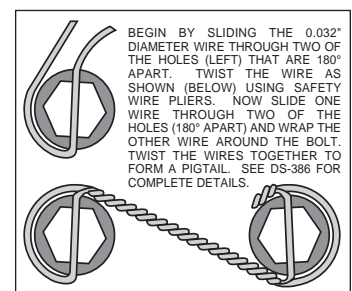

Figure 2. Safety Wire Diagram
• Orient the caliper mount bracket (1) as shown in Figure 1, and install using bolts (2), and washers (3). Ensure that the flanged heads of the clinch nuts in the bracket are facing outboard. Temporarily tighten the mounting bolts. **NOTE: The bracket must fit squarely against the mount bosses on the birdcage.** Inspect for interference from machining ridges, burrs, etc. Remove bolts one at a time, apply red *Loctite*® 271 to the threads and torque to 40 ft-lb. For an added measure of security, the bolts may be safety wired using standard 0.032 inch diameter stainless steel safety wire as shown in Figure 2. Please refer to Wilwood's data sheet DS-386 (available at www.wilwood.com/Pdf/DataSheets/ds386.pdf) for complete safety wire installation instructions.